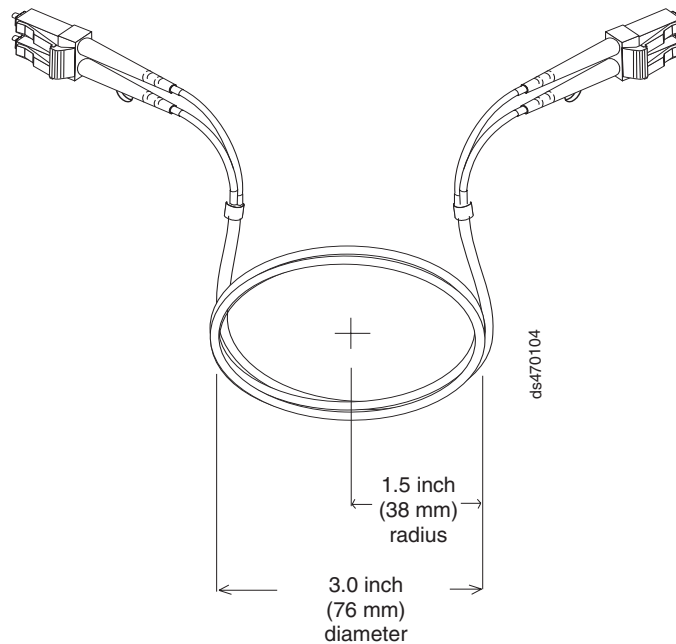

Figure 18. Best practice bending and looping specifications for fibre-optic cables
- When storing excess or unused fibre-optic cables, do not bend the cables to a diameter of less than 76 mm (3 in.), or a radius less than 38 mm (1.5 in.) or wrap them around themselves. See Figure 18 on page 49.